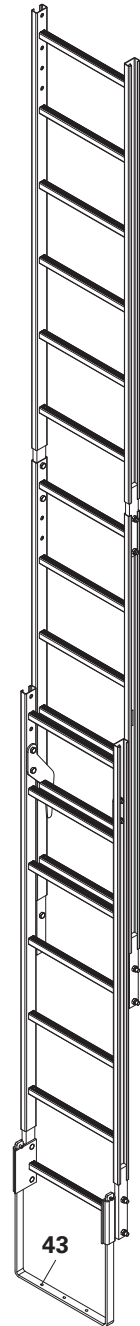

Fig. A2.21
- Attach the two Ladder Hooks of the to-be mounted Ladder 180/6 (38) on the rungs of the bottom ladder (37/38) and pull downwards. (Fig. A2.21)
Are the rungs of both ladders positioned at the same height? (Fig. A2.21)